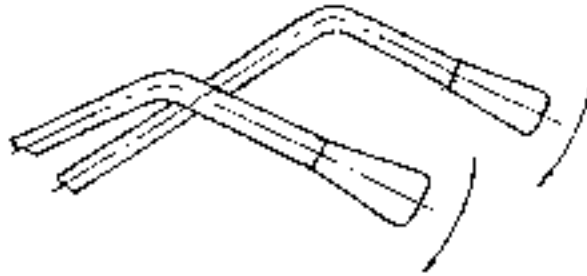

Fig. 7
2). There are two levers at the front of the operator's seat for controlling crane travel, refer to Fig. 7.